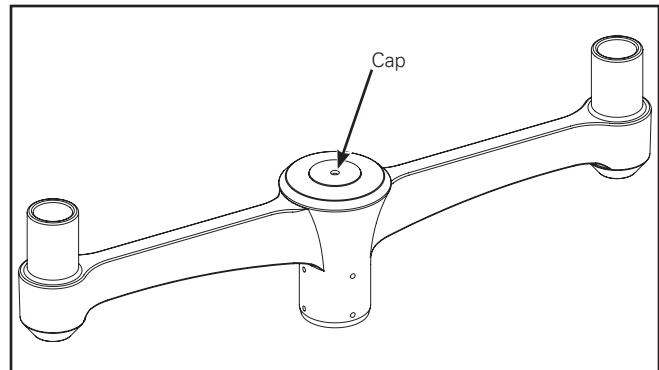

Figure 1.
1. Loosen the captive screw and take off the cap. (Figure 1.)